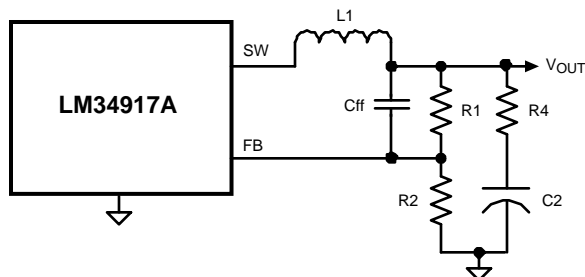
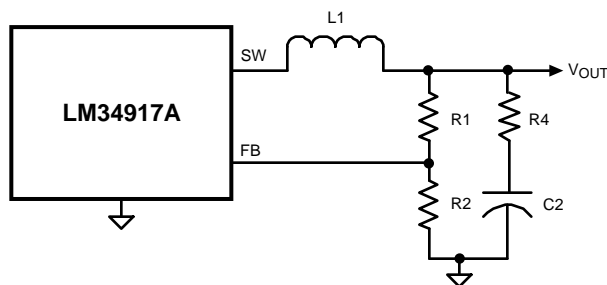
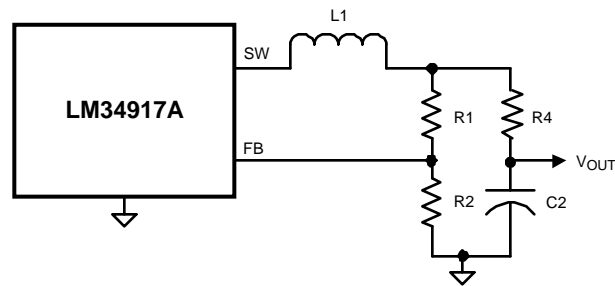

Figure 18. Reduced Ripple Configuration
Figure 19. Maximum Ripple Configuration
Figure 20. Alternate Minimum Output Ripple Configuration
a) Alternate #1: In Figure 18, R3, C7 and C8 are removed, and Cff and R4 are installed, resulting in a higher ripple level than the circuit of Figure 15. Ripple is created at V_{OUT} by the inductor's ripple current passing through R4. That ripple voltage is AC coupled to the FB pin through Cff, allowing the minimum ripple at V_{OUT} to be set at 25 mVp-p. The minimum ripple current amplitude ($I_{OR(min)}$) is calculated by re-arranging Equation 11 using $t_{ON(max)}$ and $V_{IN(min)}$. The minimum value for R4 is calculated from:
b) Alternate #2: In Figure 19, R3, C7 and C8 are removed, and R4 is installed, resulting in a higher ripple level than the circuits of Figure 15 and Figure 18. Ripple is created at V_{OUT} by the inductor’s ripple current passing through R4. That ripple voltage is coupled to the FB pin through the feedback resistors (R1, R2). Since the LM34917A requires a minimum of 25 mVp-p ripple at the FB pin, the ripple required at V_{OUT} is higher than 25 mVp-p by the gain of the feedback resistors. The minimum ripple current (I_{OR(min)}) is calculated by re-arranging Equation 11 using t_{ON(max)} and V_{IN(min)}. The minimum value for R4 is calculated from:
c) Alternate minimum ripple configuration: The circuit in Figure 20 is the same as that in Figure 19, except the output voltage is taken from the junction of R4 and C2. The ripple at V_{OUT} is determined by the inductor’s ripple current and C2’s characteristics. However, R4 slightly degrades the load regulation. This circuit may be suitable if the load current is fairly constant. R4 is calculated as described in Alternate #2 above.